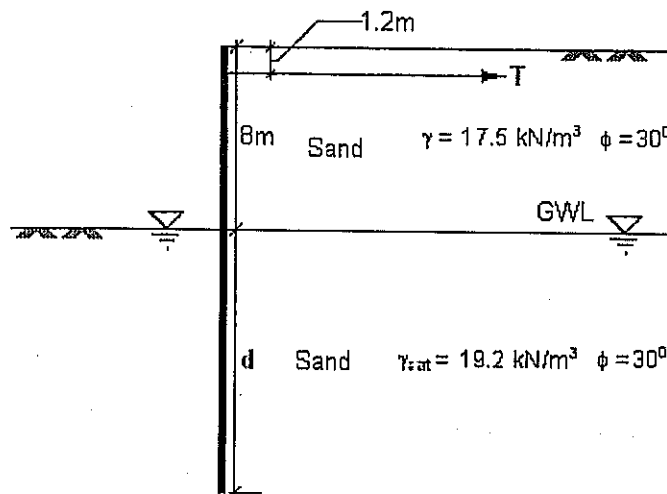

Figure Q4
- A row of anchored sheet piles is driven in to a horizontal layer of sand (refer Figure Q4) having  $\gamma_{\text{sat}} = 19.2 \text{ kN/m}^3$  and  $\phi = 30^\circ$ . The sheet pile wall is meant to retain a 8m sand fill with  $\gamma = 17.5 \text{ kN/m}^3$  and  $\phi = 30^\circ$ . The steel rod anchors are tied to the wall 1.2m below the surface of retained material. These anchors are placed 2m apart, along the wall. Using the method of 'free earth support' and allowing for a factor of safety of 2 on passive pressure developed: